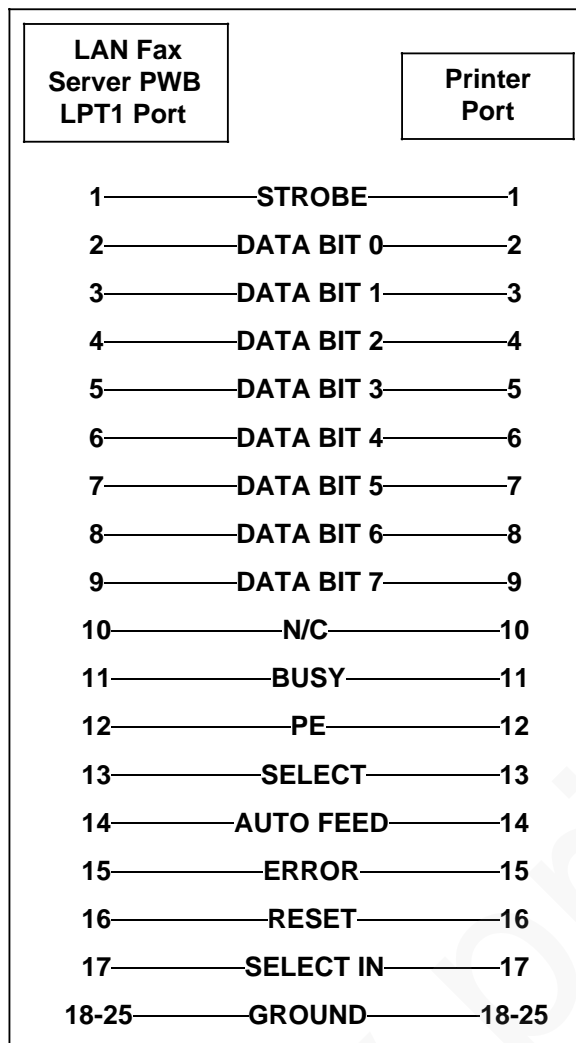

Figure 8h - 4. Printer Cable
5. Remove the printer cable and perform a continuity check. (Refer to figure 8h - 4 for typical parallel cable wiring)